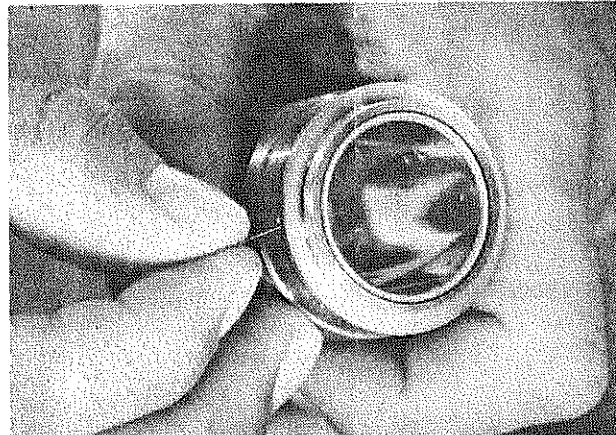

FIG. 17
7. If any holes are obstructed, they can be cleaned with a .006" wire. See Fig. 17 and 18. Note: .006" wire included in KK-4461 kit.